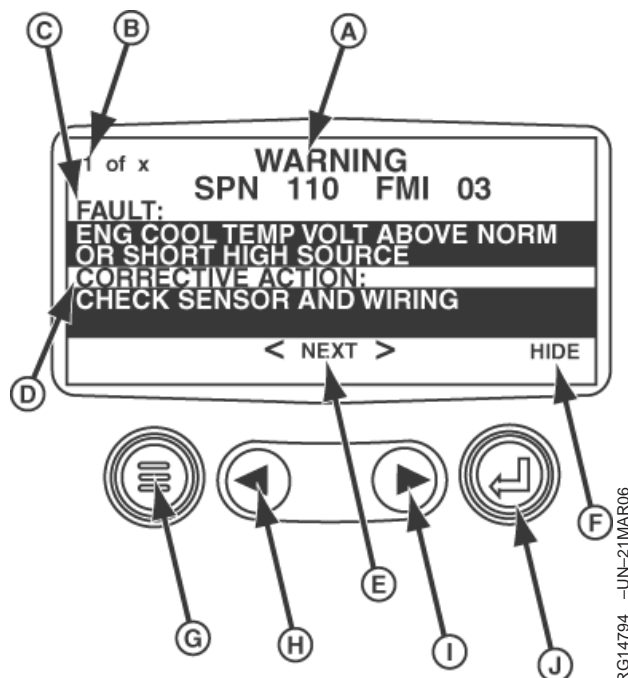

Figure 4. Active Trouble Codes Displayed
2. When the diagnostic gauge receives a trouble code from an engine control unit, the single, or four, -parameter screen will be replaced with the "Warning" message. The SPN and FMI number will be displayed along with a description of the problem (C) and suggested, "Corrective Action" (D).
3. When the word "NEXT" (E) appears above the arrow keys (H) (I), there are more trouble codes that can be viewed by using the arrow keys. To view the next trouble code, press the right arrow key (I). To view the previous trouble code, press the left arrow key (H).
As the trouble code being viewed is changed, the "1 of x" (fig. 4 (B)) shows the number of the trouble code being displayed, out of a total number of active trouble codes. (For example, "3 of 5" means viewing the third trouble code of a total number of five, active trouble codes.) As the arrow keys are used to display next, or previous, trouble codes, the left-hand number changes to the number of the trouble code to which the scroll was advanced or returned.
4. To acknowledge and hide the code and return to the single or four -parameter display, press the "Enter" Key (fig. 4 (J)).